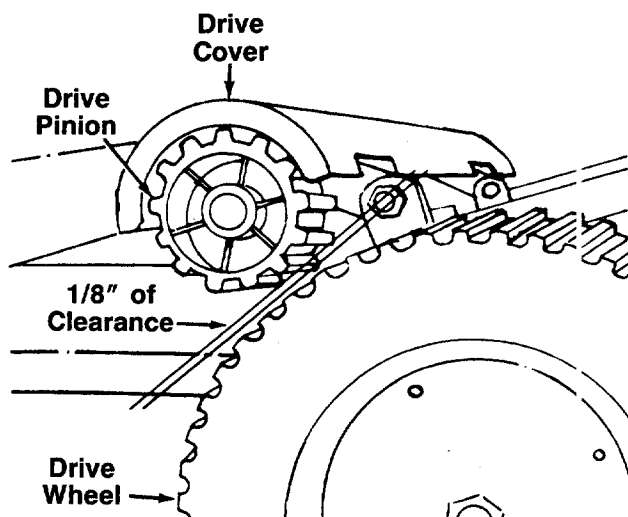

FIGURE 5.
**NOTE:** If necessary, push down on the drive cover (see figure 5) to obtain sufficient slack in the cable.
When the clutch control is engaged (clutch control handle is squeezed against the upper handle), the drive pinions should mesh with the gear tread tires. The drive pinions should clear the drive wheels when the clutch is disengaged by a minimum of 1/8". See figure 5.
The drive pinions should be a minimum of 1/8" from the drive wheels when the clutch is disengaged (clutch control handle is not squeezed against upper handle). Refer to figure 5. When the clutch control is engaged, the drive pinions should mesh with the tires.